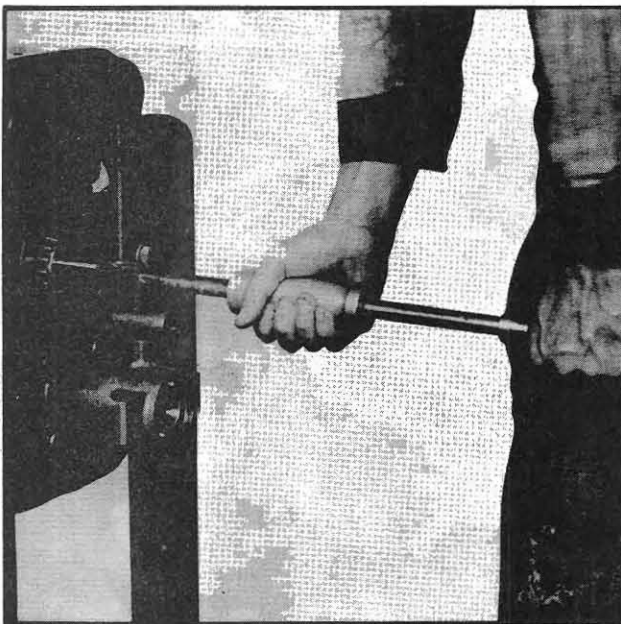

Fig. 225
5. Pull the main shaft from the rear, using the slide hammer as shown in Fig. 225.